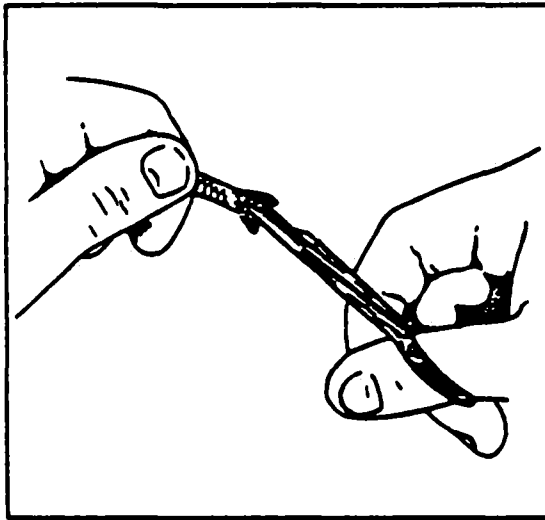

Figure 8-18. Cutting Metallic Braid from End of Lead
8. Using electrician's scissors, carefully remove 1.250 inches of outer braid from end of lead. Refer to Figure 8-18.